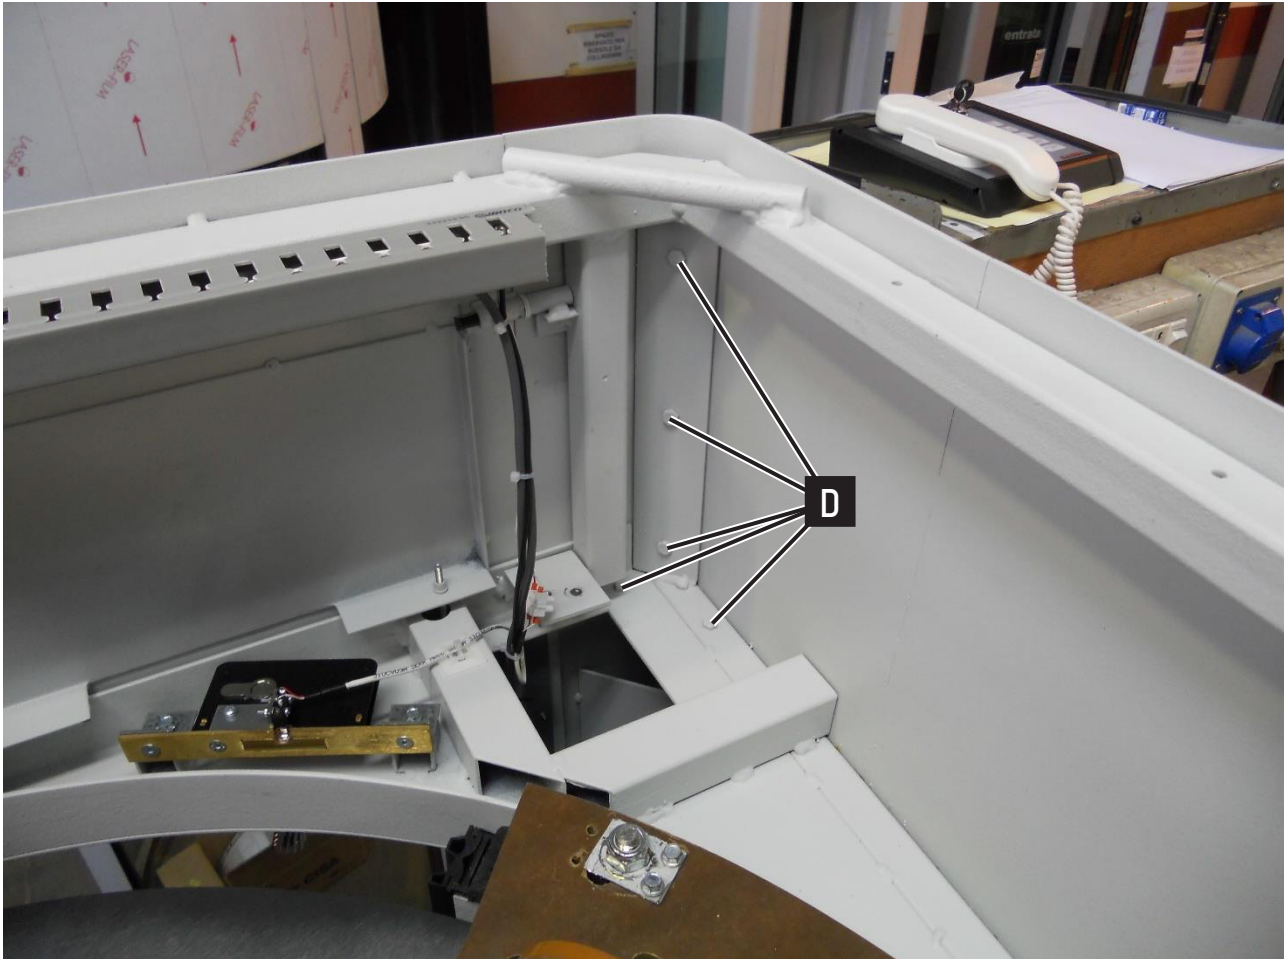
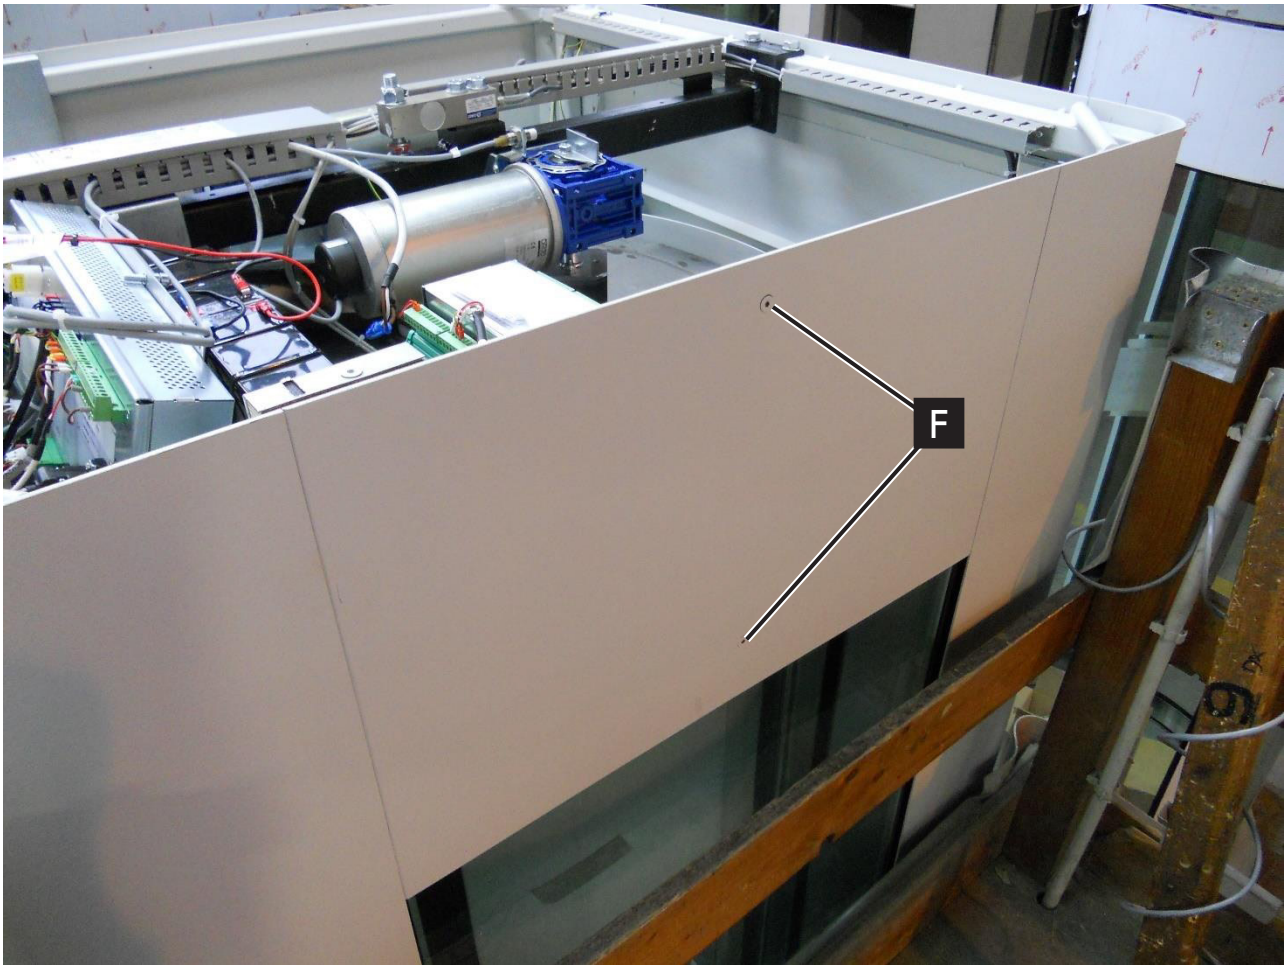

Fig. 26 - (dis)assembling / Photo 2
Fig. 27 - (dis)assembling / Photo 3
7. Unscrew all screws marked with **D** of the 4 angles (and pointed out in (⇒ Fig. 26), as well as the 4 ones marked with **F** on the external sides (and pointed out in (⇒ Fig. 27)).